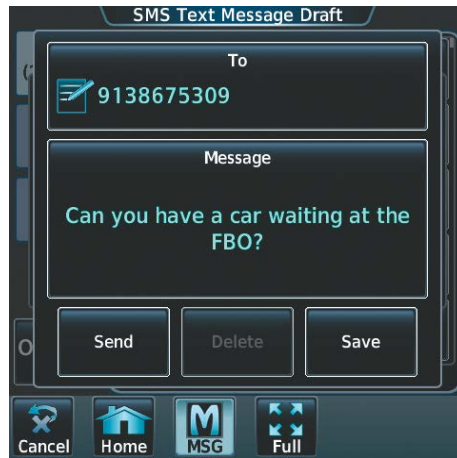

Figure 8-98 Message Ready to Send
- 9) Touch the **Enter** Button. The message text is displayed in the 'Message' Window as shown in Figure 8-98.